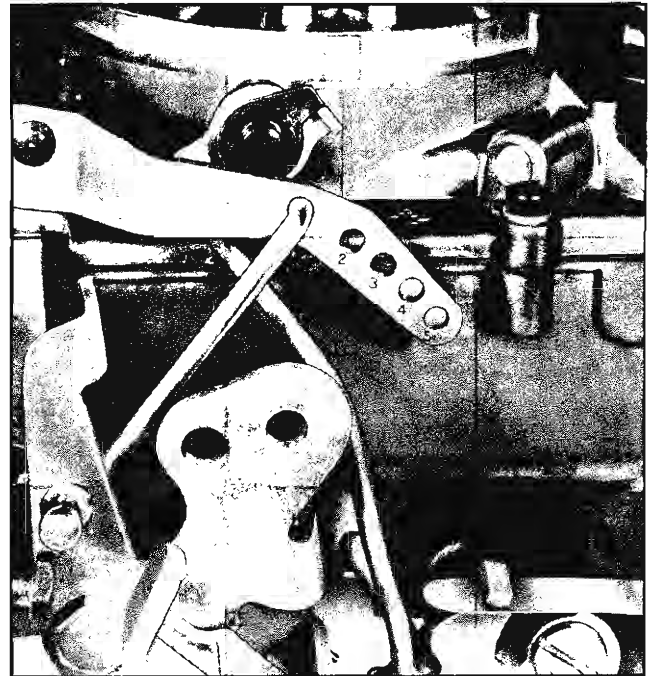

Fig. 6B-60 Secondary Throttle Contour Clearance Adjustment
**CHOKE ROD ADJUSTMENT (Fig. 6B-58)**